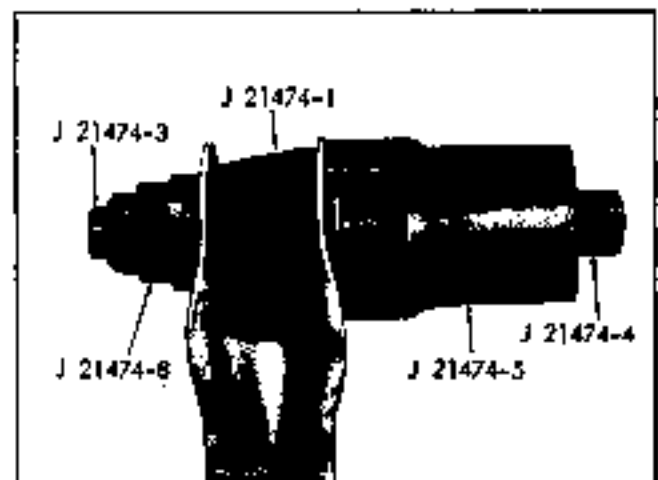

Fig. 4-7 Removing Upper or Lower Control Arm Bushing - Except Firebird
2. Arrange tools as shown in Fig. 4-7 and press bushing from control arm.
2. Remove bushing, using components of tool J 21474 as shown in Fig. 4-7.